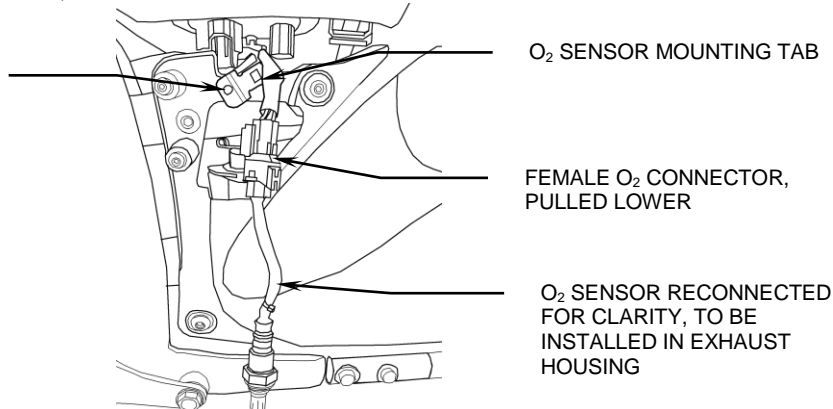

FIGURE 1
2. Remove cover over the oxygen sensor connector on right side of motorcycle above the exhaust, it is retained by three button head allen bolts. On the female connector pull the tab that faces the male connector outward and slide the male connector out of it to allow the oxygen sensor to be removed with the exhaust assembly. On the female connector depress the tab on the backside of the connector, (pull it inward towards the body of the connector), and slide it off of the steel tab on the frame to allow it to stretch, further down, extending the length of the oxygen sensor for later installation of Cobra exhaust, see Figure 1. NOTE: The Oxygen Sensor will be installed into the Cobra Exhaust, it may be used in combination with a closed loop Fi2000® Fuel Module, Cobra Part Number: 92-1774CL.